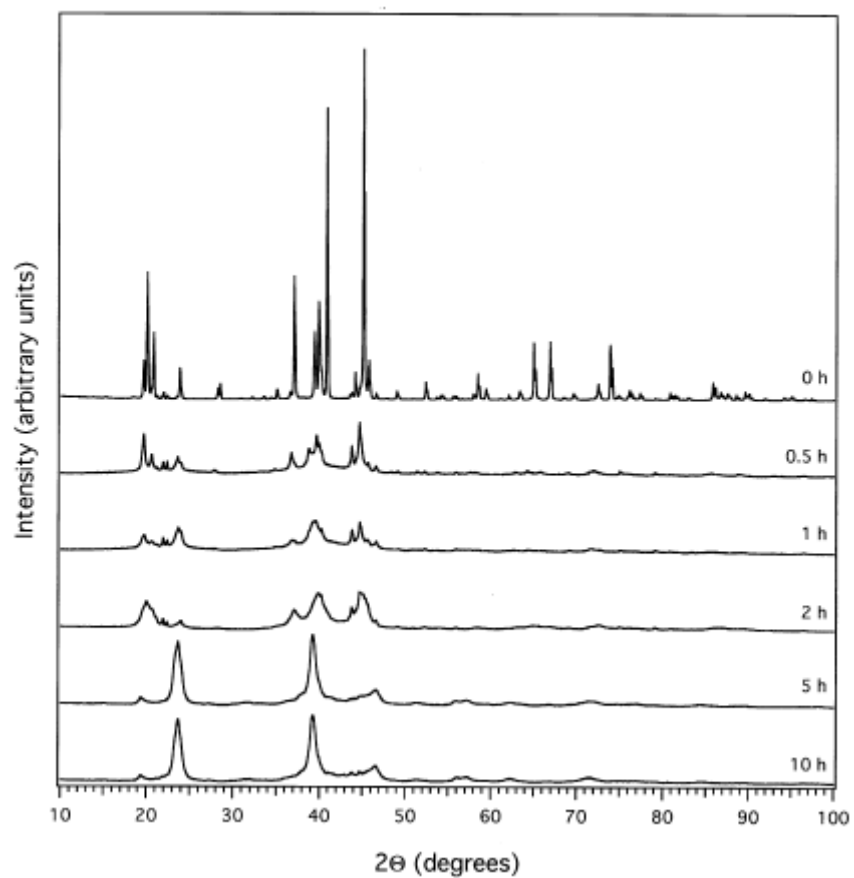

Figure 3 / Rajah 3
- [d] Figure 3 shows XRD pattern for the Mg_2Ni intermetallic ball-milled in hydrogen atmosphere. Based on this data, analyse the preparation of Mg_2Ni-H_x intermetallic by ball-mill technique.